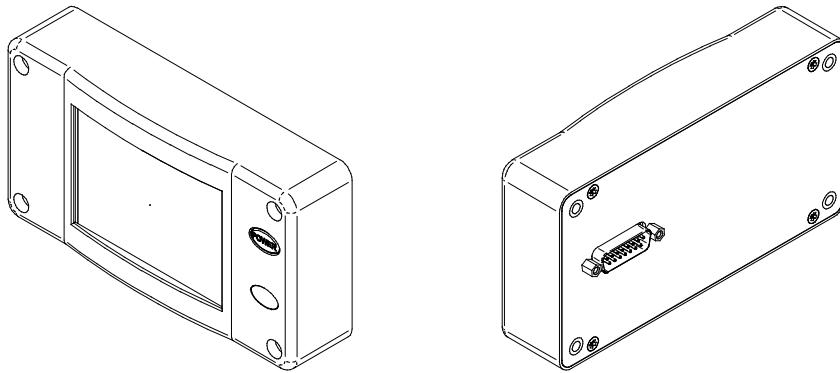

Figure 1. Control Head Outline View
- C. The XMC100, as illustrated in Figure 1., provides system information and operational control capability of the XM Radio system.
The XM Radio Control Head is illustrated in Figures 1 and 2.